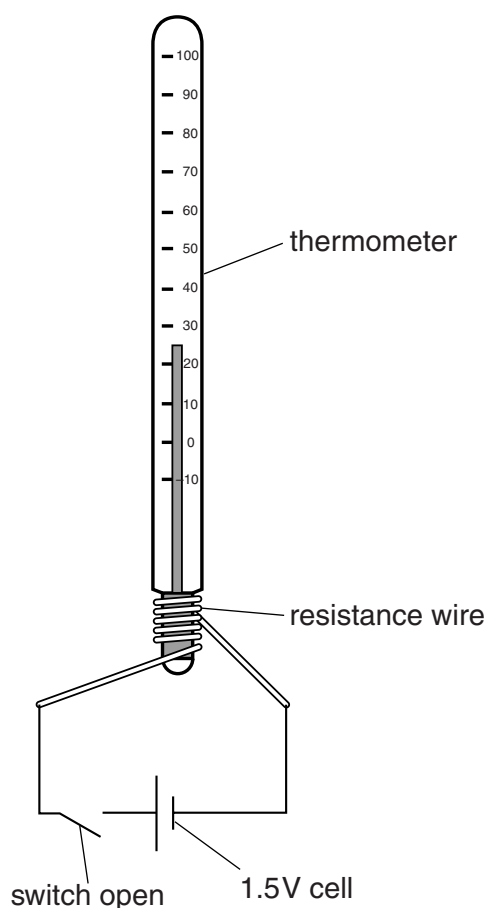

Fig. 1.1
- 1 The apparatus is to be set for the candidate as in Fig. 1.1, with the switch **open**.